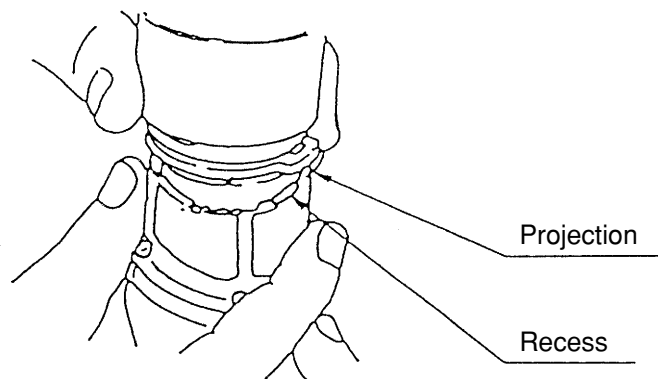

Fig. 14
(g) Install the assembly reassembled in step (1) and the assembly reassembled in step (f) together. (See Fig. 14.)